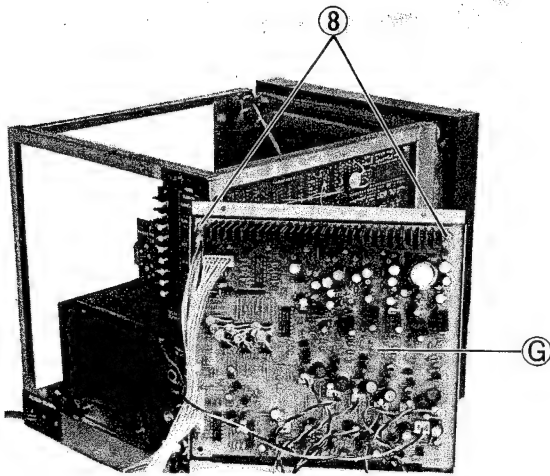

Fig. 1-8
1. Remove four screws (6) and four washers (7), then the rear panel (F), open as in Fig. 1-8.